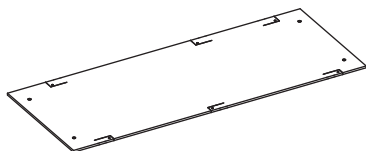

Figure 3.9
- 2.1) Fold the installation paper, making sure that you fold in a direction such that the surface without text is protruding (Figures 3.9 - 3.10);